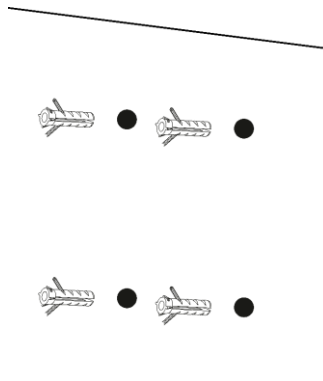

Fig. 08
03) Insert anchors into the drilled holes (Fig. 08). Do not perform this step when mounting the device on a wooden wall.